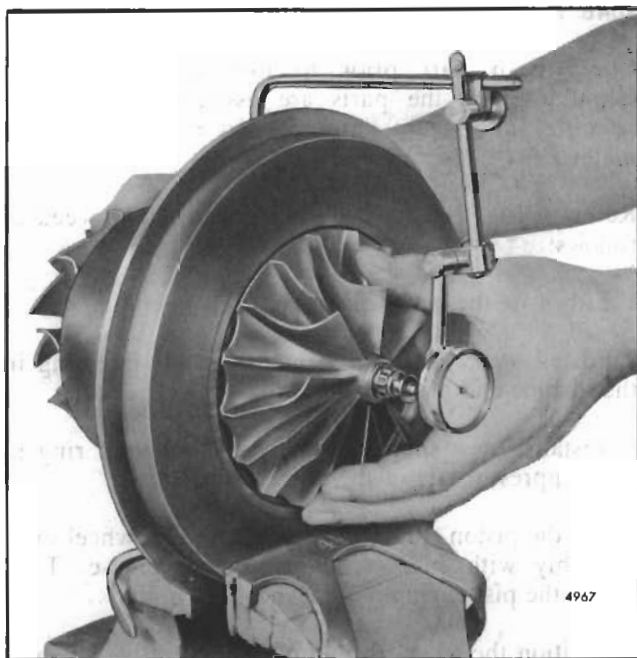

Fig. 10 - Checking Bearing Axial End Play
- Clamp the center housing assembly in a bench vise equipped with soft jaws as shown in Fig. 10.
- Fasten the dial indicator and magnetic base (J 7872-2) to the center housing so that the indicator tip rests on the end of the rotating shaft on the compressor side (Fig. 10).
18. Position the turbine housing (6) as marked at disassembly against the center housing (27) and secure it in place.
- Secure the T18A40 and T18A90 turbine with four clamps (5), four new lockplates (4) and eight bolts (3). Tighten the bolts to 100-110 **lb-in** (11-12 Nm) torque and bend the tabs of the lockplates up against the bolts.
- Secure the TV81 turbine housing with the "V" band coupling (28). Tighten the toggle nut as follows:
19. Position the compressor housing (2) as marked at disassembly against the backplate assembly (14) and secure it in place with the "V" band coupling (1). Lightly lubricate the threads of the toggle bolt with engine oil and tighten the nut to 110-130 **lb-in** (12-15 Nm) torque.
- a. Clamp the center housing assembly in a bench vise equipped with soft jaws as shown in Fig. 10.
- b. Fasten the dial indicator and magnetic base (J 7872-2) to the center housing so that the indicator tip rests on the end of the rotating shaft on the compressor side (Fig. 10).